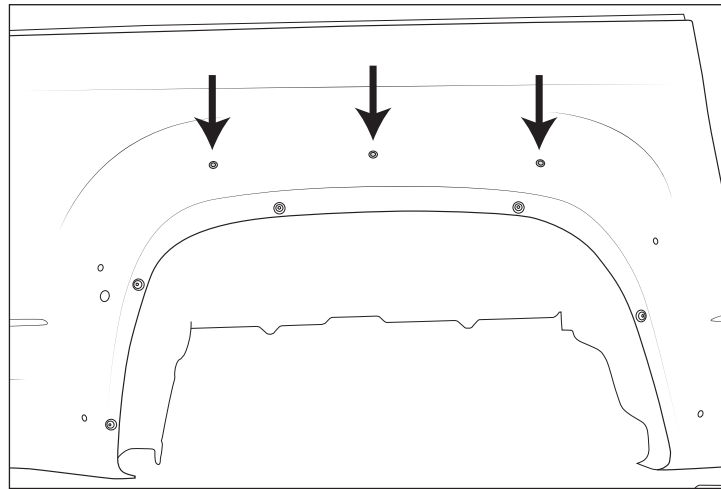

Figure 21
8. Install supplied riv-nuts into the three 11/32" holes on each bedside (fig. 21)